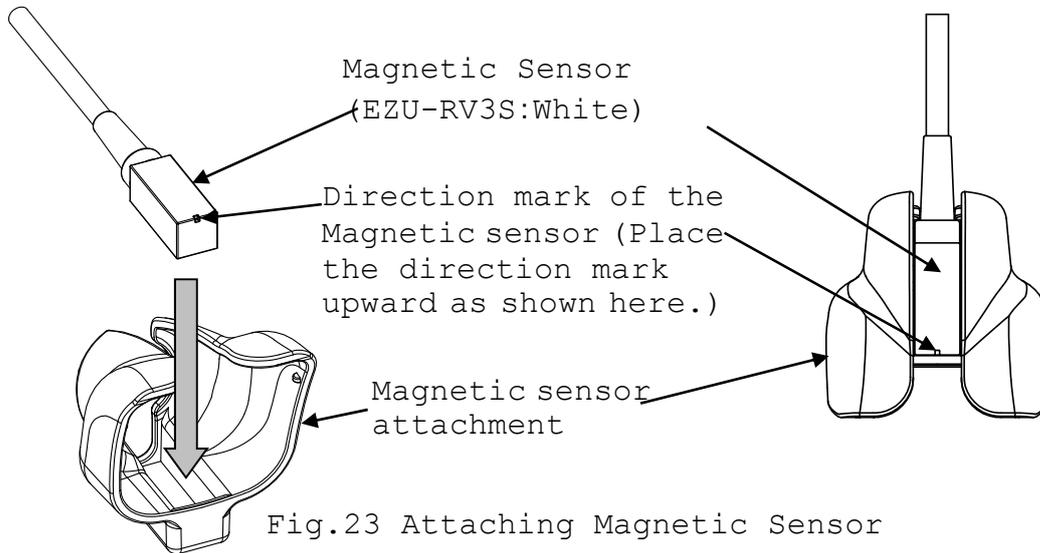

Fig.23 Attaching Magnetic Sensor
- 1) Insert the Magnetic sensor into the Magnetic sensor attachment with correct direction as shown in Fig.23. Place the direction mark upward as shown in Fig.23.